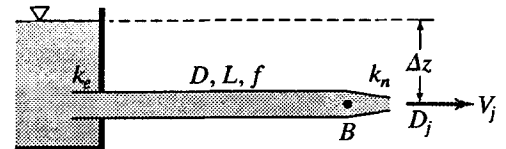

Figure X8.27.1
8.27.2 A 180-mm-diameter pipeline ( $f = 0.032$ ) 150 m long discharges a 60-mm-diameter water jet into the atmosphere at a point which is 80 m below the water surface at intake (Fig. X8.27.1). The entrance to the pipe is reentrant with  $k_e = 0.9$ , and the nozzle loss coefficient is 0.055. Find the flow rate and the pressure head at the base of the nozzle.